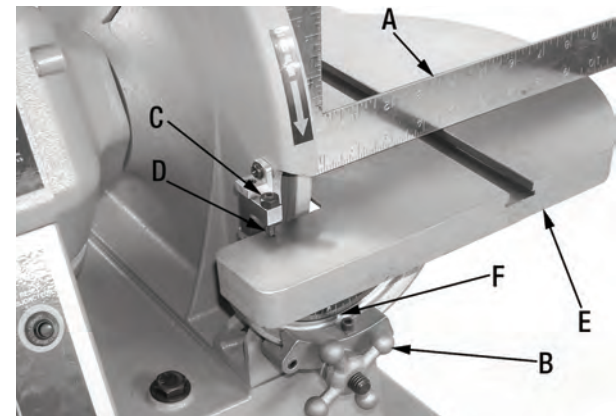

Figure 15
1. Place a square (A) Fig.15 on the sanding disc table and up against the sanding disc. Make sure the sanding disc table is set perfectly at a 90° angle.
2. If the sanding disc table is not set at a perfect 90° angle, an adjustment can be made. Loosen lock knobs (B), and adjust table to a perfect 90° angle.
3. Loosen 90° bevel stop hex. nut (C) and adjust the set screw (D) in or out until it rests against the sanding disc table (E). Retighten hex. nut (C).
4. Readjust the angle pointer (F) to indicate 0°.